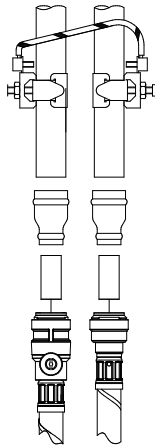

Figure 12
- **Adjacent pipes:** Adjacent suction and delivery pipes should be fitted with earthing clamps in accordance with current regulations (Figure 12).